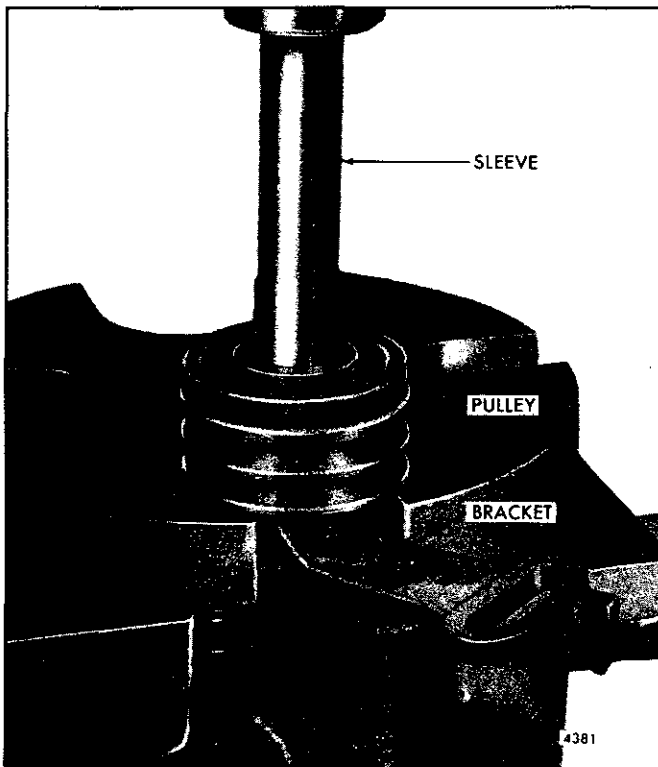

Fig. 2 – Removing Shaft and Bearing Assembly and Bracket from Idler Pulley
1. Support the pulley, then press the shaft and bearing assembly and bracket from the pulley by applying pressure to the outer race of the bearing (Fig. 2).